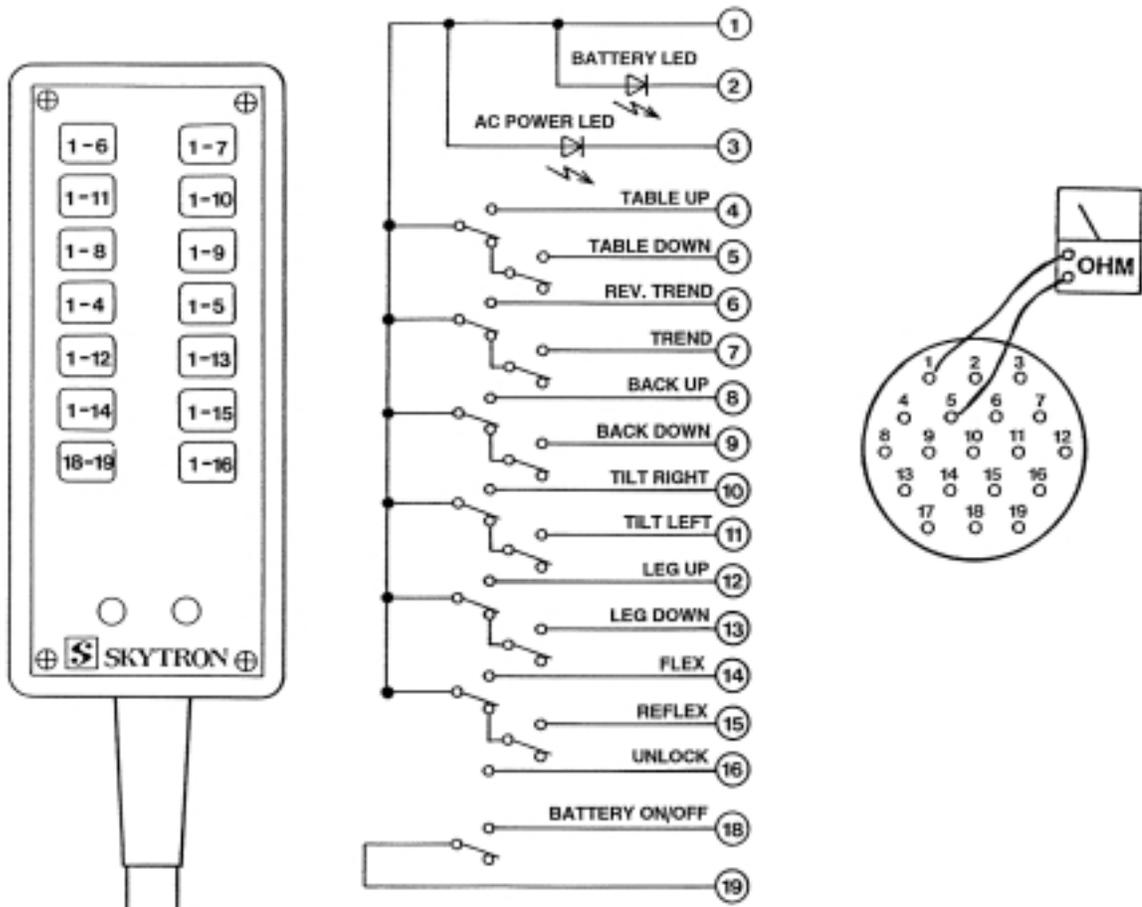

Figure 6-8. Pendant Control Test
2. Use an ohmmeter R x 1 and check the continuity between pin 1 and 4 through 16 while pressing the appropriate button. Also test between pins 18 and 19. See figure 6-8.